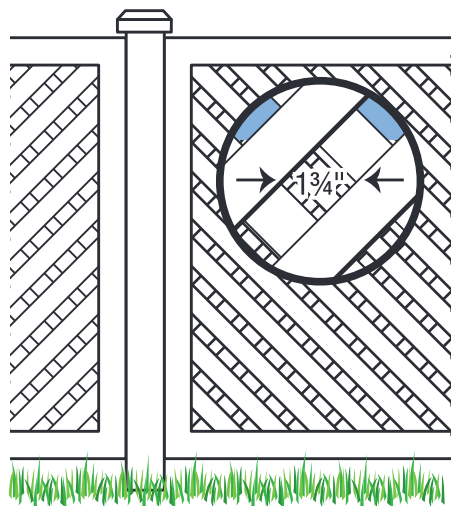

Figure 7
9. Where the barrier is composed of **diagonal members**, such as a lattice fence, the maximum opening formed by the diagonal members should be no more than $1\frac{3}{4}$ inches (figure 7).